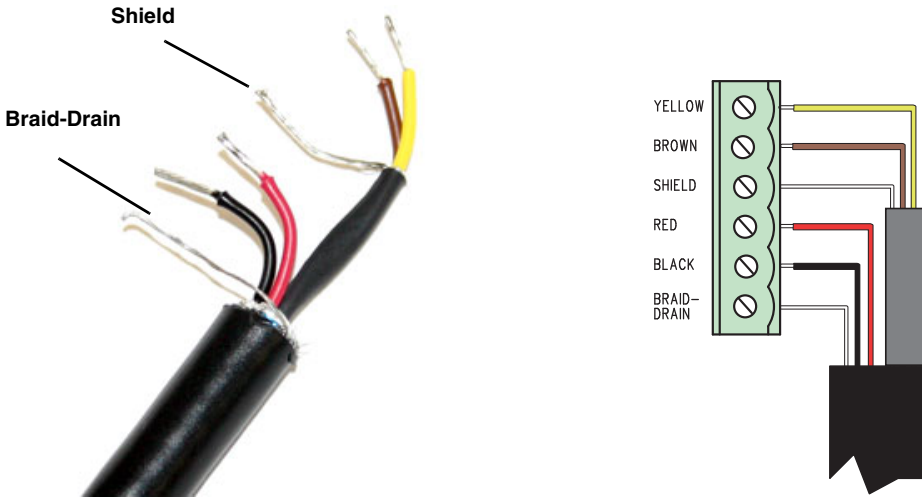
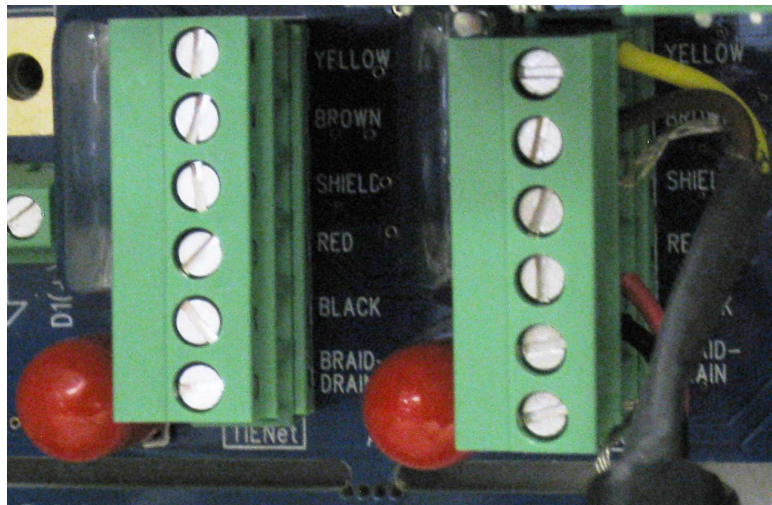

Figure 2-3 TIENet Device terminal connections
Figure 2-4 Attach wired terminal strip to case board socket
4. Attach the wire ends to the terminal strip as shown in Figure 2-3, then press the terminal strip back down into its socket on the case board, as shown in Figure 2-4, taking care not to strain any wire connections. Gently tug each wire when finished, to verify secure connection to the screw terminals.
5. Press the terminal strip back down into its socket on the case board, as shown in Figure 2-5, taking care not to strain any wire connections. The 310 Ex sensor cable does not include a reference air connection (Figure 2-4).